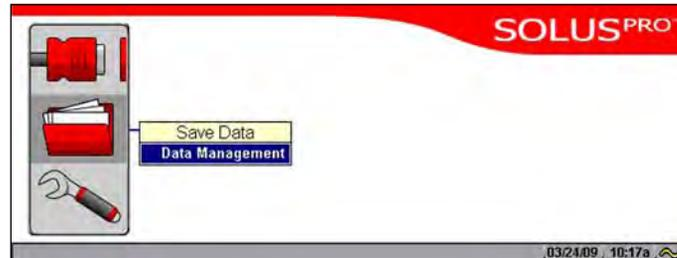

Figure 5-39 Data Management menu option
2. Select the **Data Management** option (Figure 5-39).